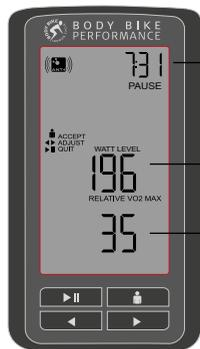

Figure 41
3) If there is no heart rate transmitter paired, the pairing will start automatically and the display will look like figure 36. If a heart rate transmitter is already paired, the display will look like figure 33. Press **F** to maintain this pairing and continue to next setting, see figure 41, or press **◀** or **▶** to start new pairing.
7) Continue until you are unable to progress further. Press any button to end test. The display will show your relative VO2 max and your watt level, see figure 41. Press F or ►E to accept and end or use ◀▶ to adjust.